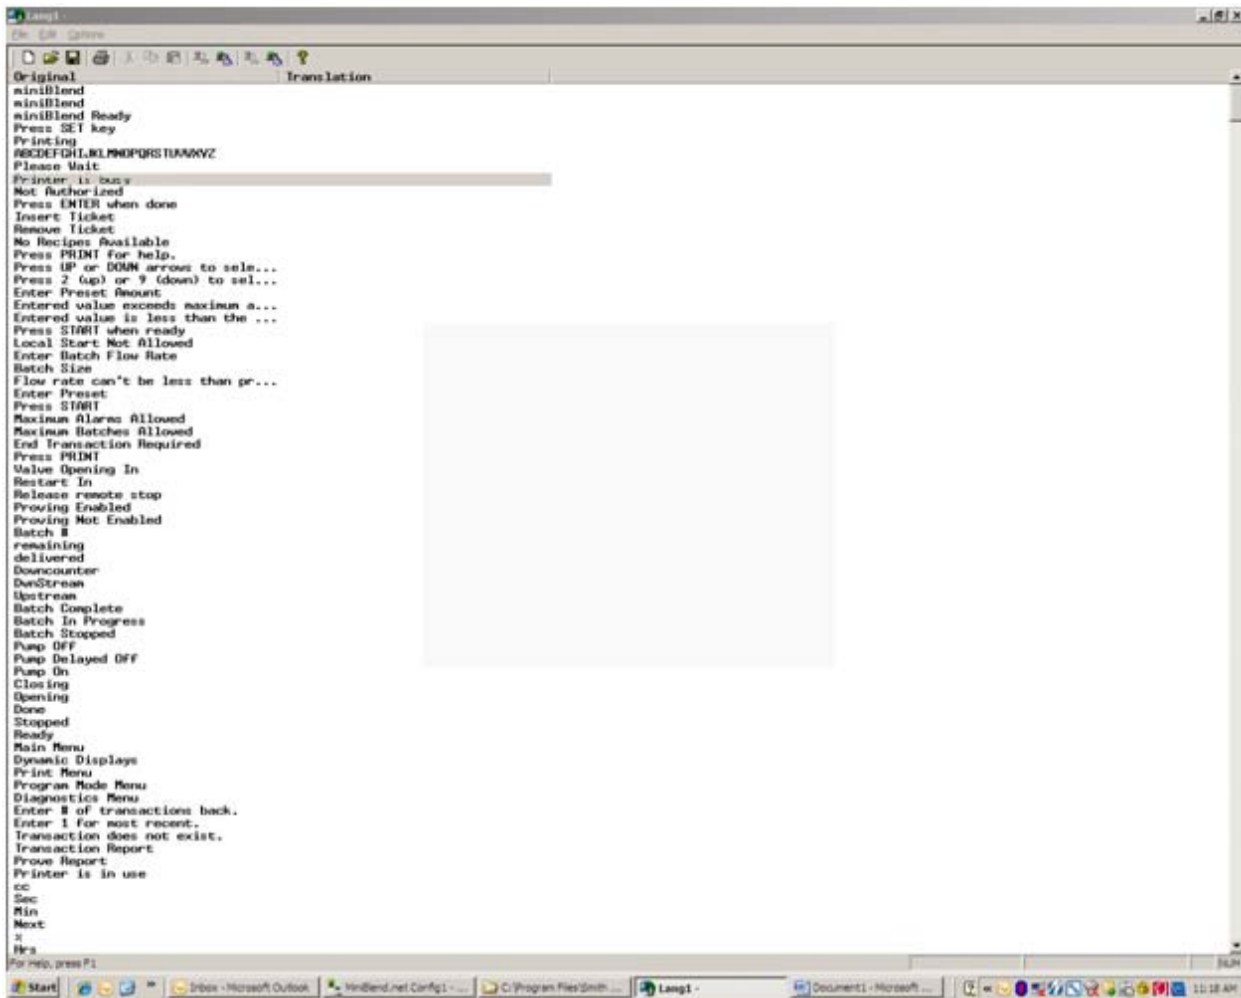

Figure 25 Translation Screen
3. Click "OK" to exit and save changes, "Cancel" to abandon the change, or "Help" for more information about this function. Assuming that new text was entered, it will appear to the right of the Translation Editor screen, as shown in Figure 25. The new literal, once downloaded to the miniBlend.net, will appear in place of the original literal.